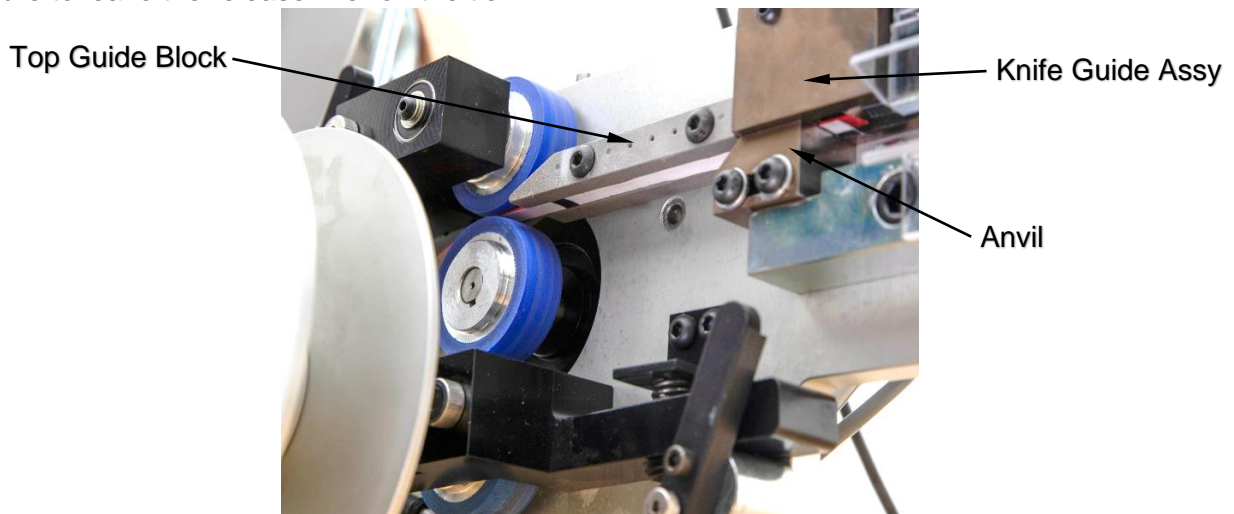

Figure 3.4
- H. Push the end of the tie into the slot in the Knife Guide Assembly, just above the Anvil (Figure 3.4). Be sure to leave the release liner on the tie.